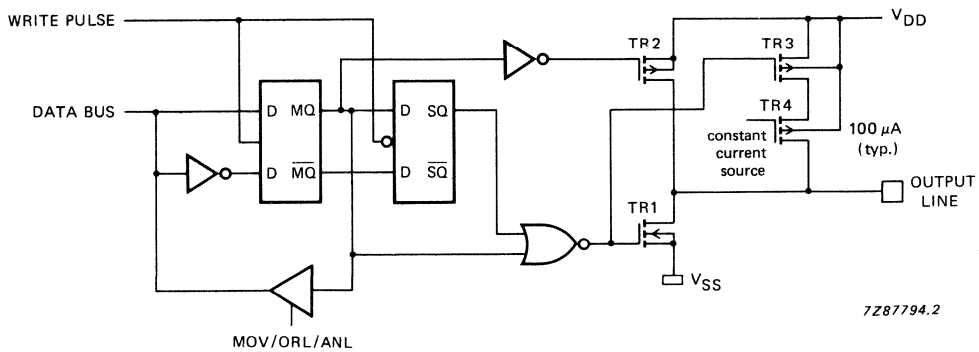

Fig. 14 Push-pull output.
- Option 3 – PUSH-PULL OUTPUT; drive capability of the output will be  $1,6\ \text{mA}$  (min.) at  $V_{DD} = 5\ \text{V}$  in both polarities. To avoid a large current flowing through the output transistors during the input mode, these push-pull pins must only be used as outputs (Fig. 14).